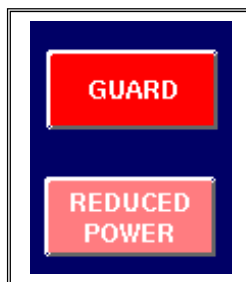

Figure 23 – Guard button
- **Guard** - System functions considered to be potentially dangerous are **guarded** to provide a level of protection against accidental activation. A pale red background indicates a guarded function as seen in figure 23, below.